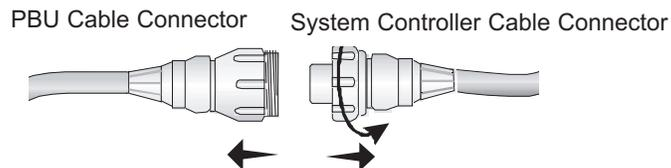

Figure 23 Unscrewing the PBU and System Controller Cables
- 4 Unscrew the **black** System Controller / PBU cable connector (**Figure 23**).